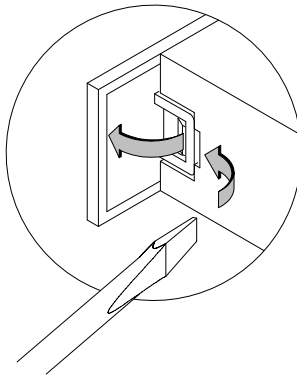

Figure 3-2. Removing a Bezel from the DDS-2 Drive
- To remove a bezel from a drive, use a straight blade screwdriver to lift the bezel tabs from the sides of the drive. Refer to Figure 3-2.